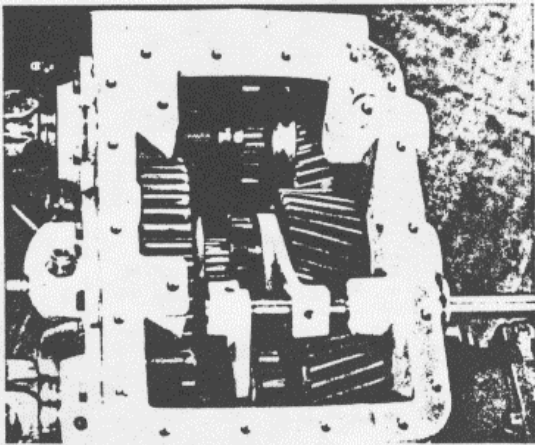

Fig. 35
5. Install the 7 5/8" overall length underdrive shift fork (Item 35); it should fit into the groove of the underdrive shift clutch (on the intermediate shaft) the long hub section should be facing the rear of the case. Insert the two-groove shift shaft (Item 36) into the adaptor tube (Item 15) at the rear of the case housing (see 1 of this section). Slide end of shift shaft into underdrive shift fork (Item 35). Put 5 7/8" overall length shift fork (direct drive shift fork-Item 34) long hub toward front of the case, into the case with the forks in the groove in the direct drive clutch on the input shaft. Push shift shaft through this fork (See Fig. 35) and into the hole in the front wall of the case housing. Push on the end of the piston and compress the spring until the piston butts against the nylon stop ring and the adaptor. This will allow the set screw in the underdrive shift fork (Item 35) to be tightened into the proper groove on the shift shaft. Rotate both shift forks in either direction but in the same direction and, with the second fork in the proper place longitudinally, tighten set screws to specified torque and install the lockwire.